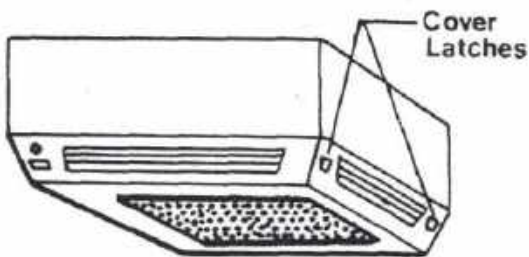

FIG. 1
The unit cover is hinged, to allow for easy access and servicability of the air cleaner components. Two (2) spring latches are located on front of cover as shown in Fig. 1. To gain access to inside of air cleaner unit for installation and servicing, depress both latches simultaneously and swing cover open.